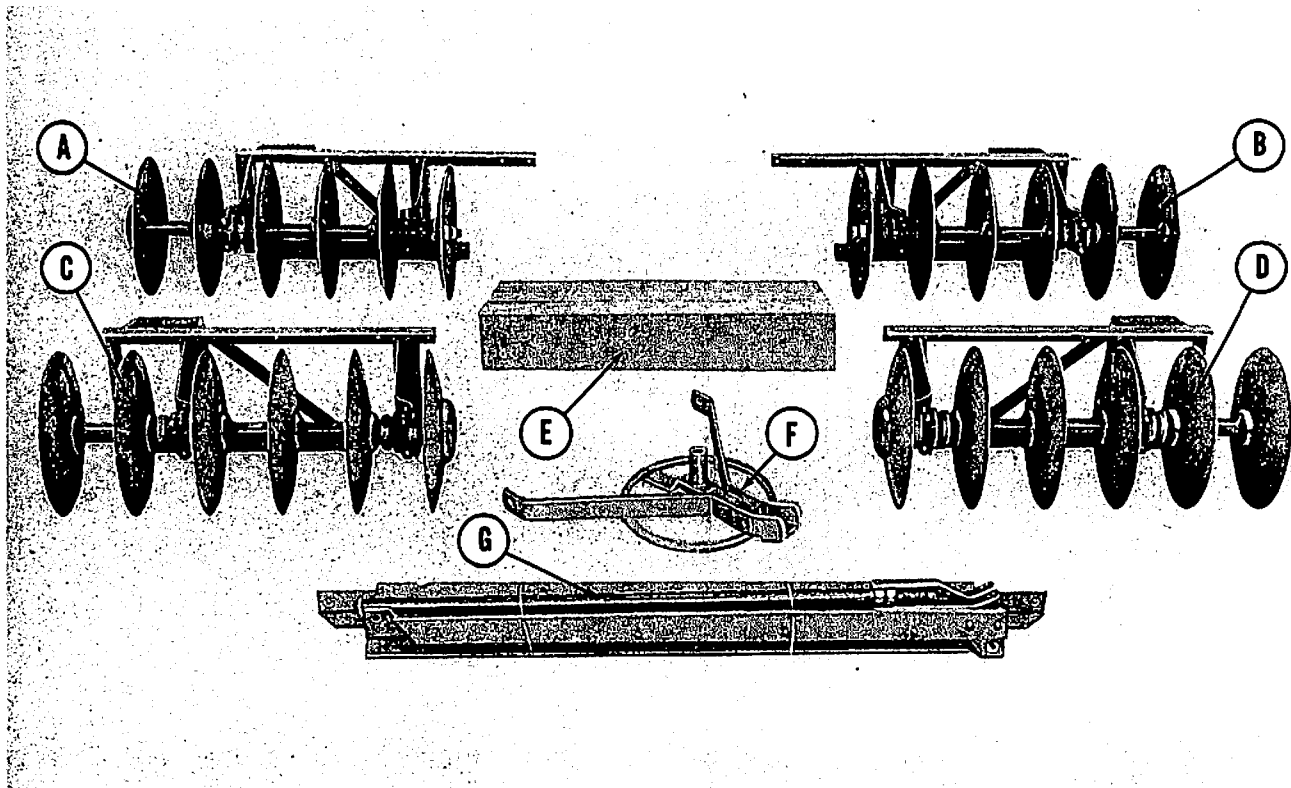

Figure 1
The 6½ and 7½ foot Dearborn Adjusto-Flex Tandem Disc Harrows are shipped in seven bundles as shown in Figure 1. Check the shipment against the following list and Figure 1 to be sure all parts are received.
- a. Position the four disc gangs in their approximate working position as shown in Figure 1. The bumper washers on the front gangs should be together and the rear gangs placed approximately 16 inches apart.